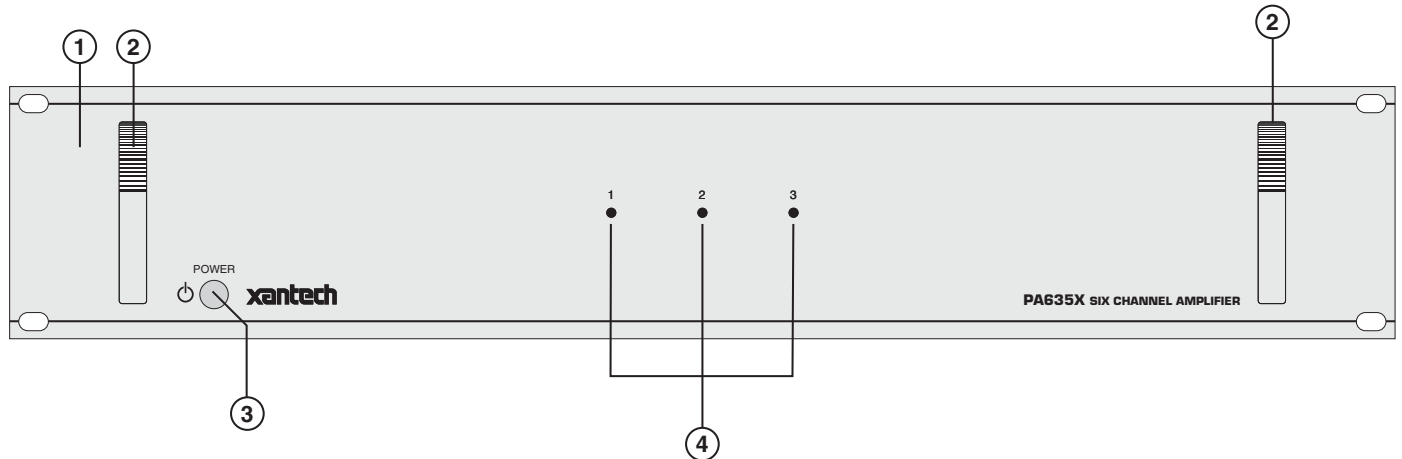

FIGURE 2 – THE MODEL PA625X FRONT PANEL – FEATURES AND FUNCTIONS
PA635X does not turn OFF when REMOTE input voltage goes to 0 Volts.	Be sure that the POWER switch (item 3, Fig. 2) is set to the MANUAL OFF (REMOTE ON/OFF) position.
PA635X becomes very warm, shuts OFF, but does not come back ON automatically.	Set POWER switch (item 3, Fig. 2) to MANUAL OFF (OUT) position for 15 seconds, then back ON. If REMOTE ON/OFF jack is used, unplug for 15 seconds, then re-plug.